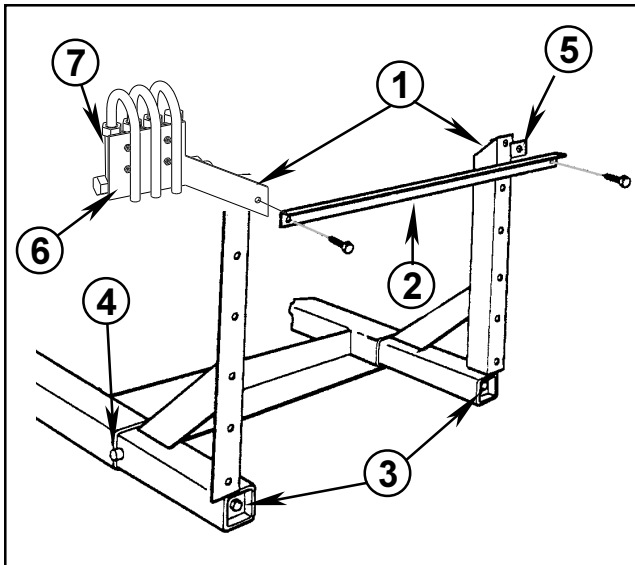

FIG. 2
2. Assemble Flow Monitor and Flow Monitor Backing Plate onto the Flow Monitor Mount using (4) 1/4" x 2" hex hd. cap screws and lock nuts.
3. Assemble the Cross Support Angle, Flow Monitor Mount and Spacer onto the Boom Mount Assemblies with (2) 1/2" x 1-1/4" hex hd. cap screws and lock nuts as per FIG. 2.
4. Using a torque wrench, tighten the (2) 1/2" x 18" screws that join the Wedge Tubes to the boom Mounts. Tighten to 50 ft. lbs.